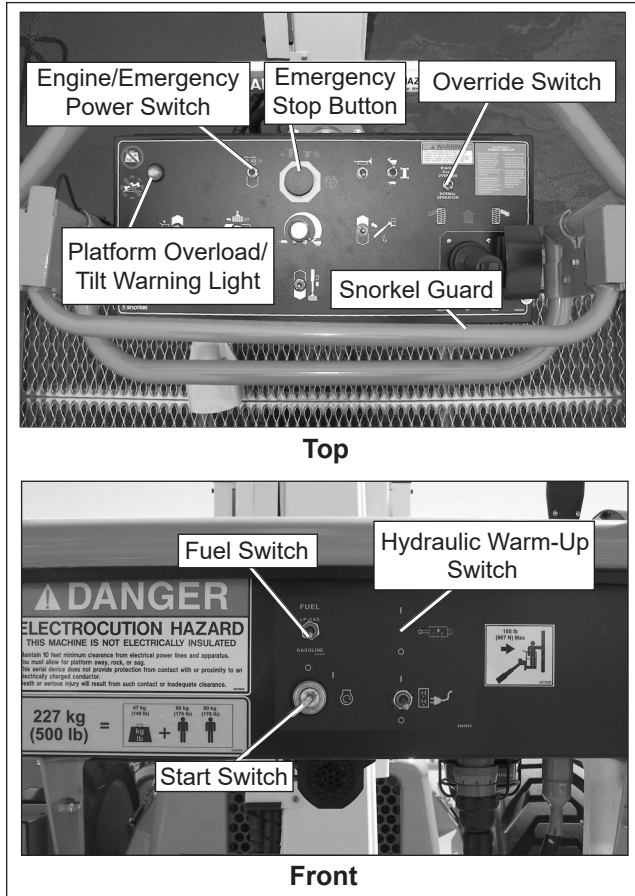

Figure 8.2 – Upper Controls
2. On dual fuel machines, set the fuel switch (refer to Figure 8.2) to either LPG or gasoline.
6. Pull the emergency stop outward (refer to Figure 8.2).
The Snorkel Guard (refer to Figure 8.2.) is a mechanically activated guarding system which offers an additional level of protection to the operator at the upper controls.